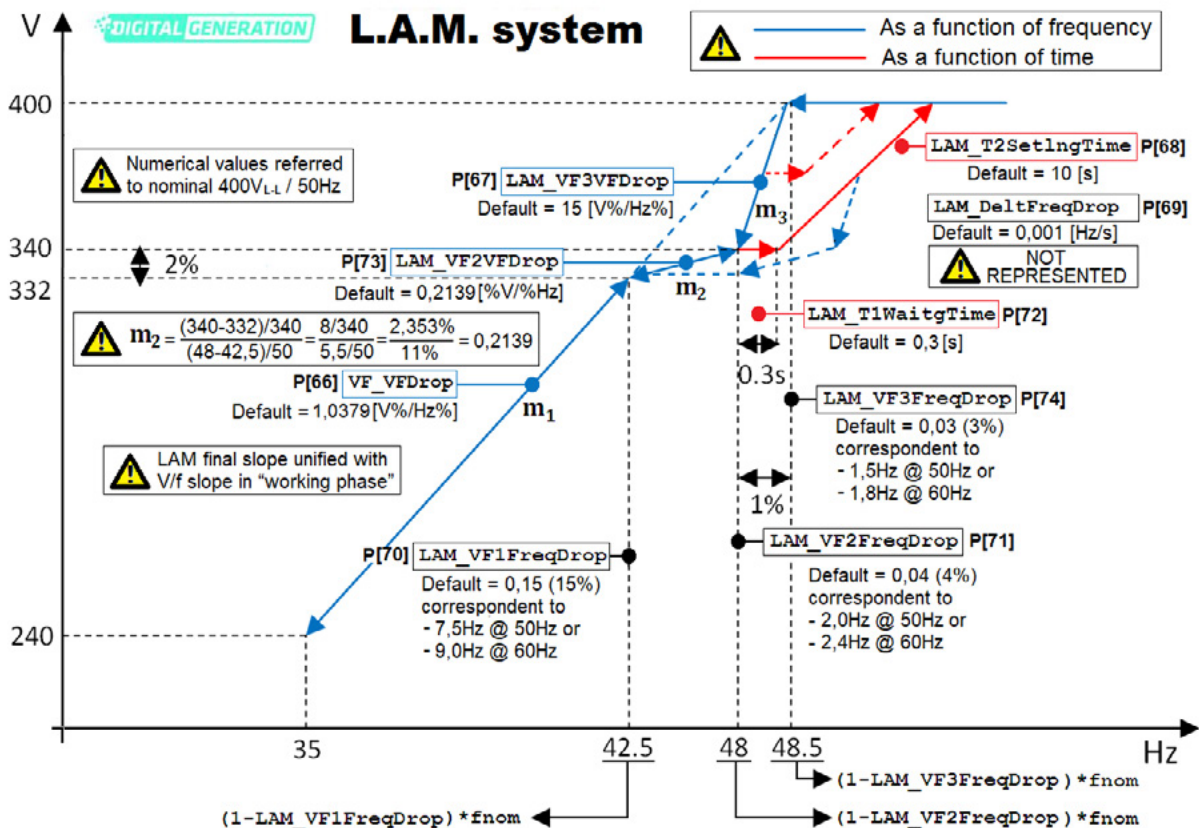

Fig. 9.3-A: L.A.M.S. (Load Acceptance Module System)
L.A.M.S. (Load Acceptance Module System) functionality creates a V/f curve with two breaking points, frequency hysteresis and delay settable by dedicated parameters (tab. 9.4-I and fig. 9.3-A).